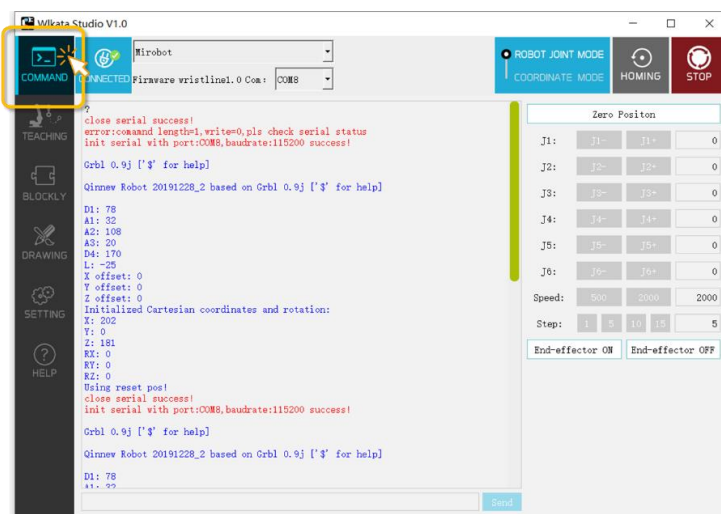

Figure 3.17 COMMAND tab in the WLKATA Studio software
- (1) Click the COMMAND tab in the software interface, as shown in Figure 3.17.
(1) Click the COMMAND tab, as shown in Figure 3.17.